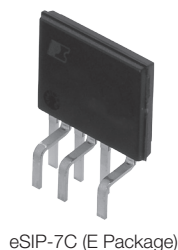

Figure 2. Package Options.
6. Package: eSIP-7C (see Figure 2).